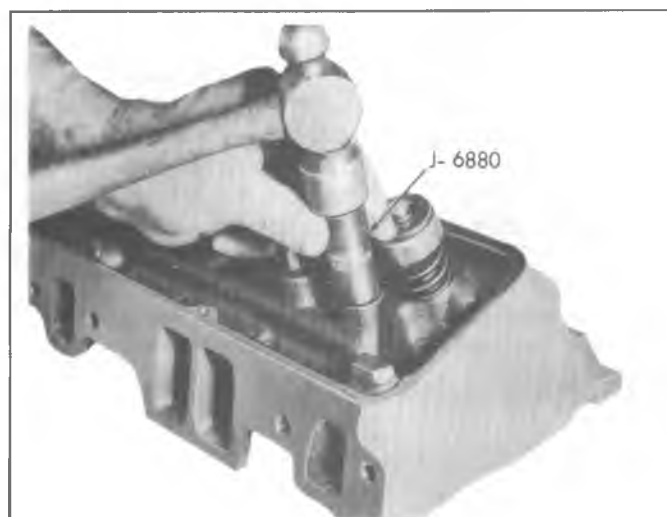

Fig. 6A1-20--Installing Rocker Arm Stud - Typical
1. Remove old stud by placing Tool J-5802-A over the stud, installing nut and flat washer and removing stud by turning nut (fig. 6A1-18).